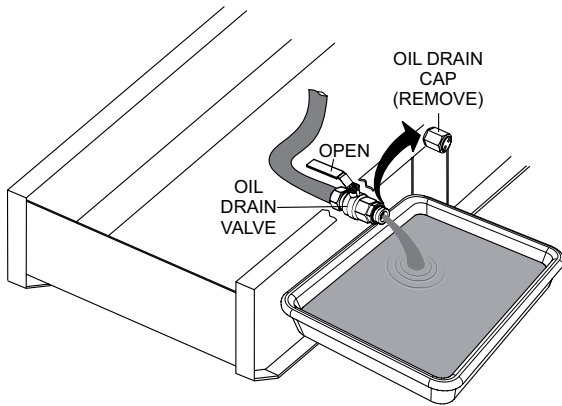

Figure 61. Draining Engine Oil
3. Next, remove **oil drain cap** (Figure 61)